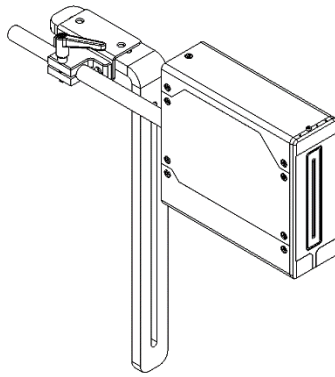

Figure 11
- Assemble the print head, bracket, rod, and rod mount on the L-shape mount as shown in Figure 11.